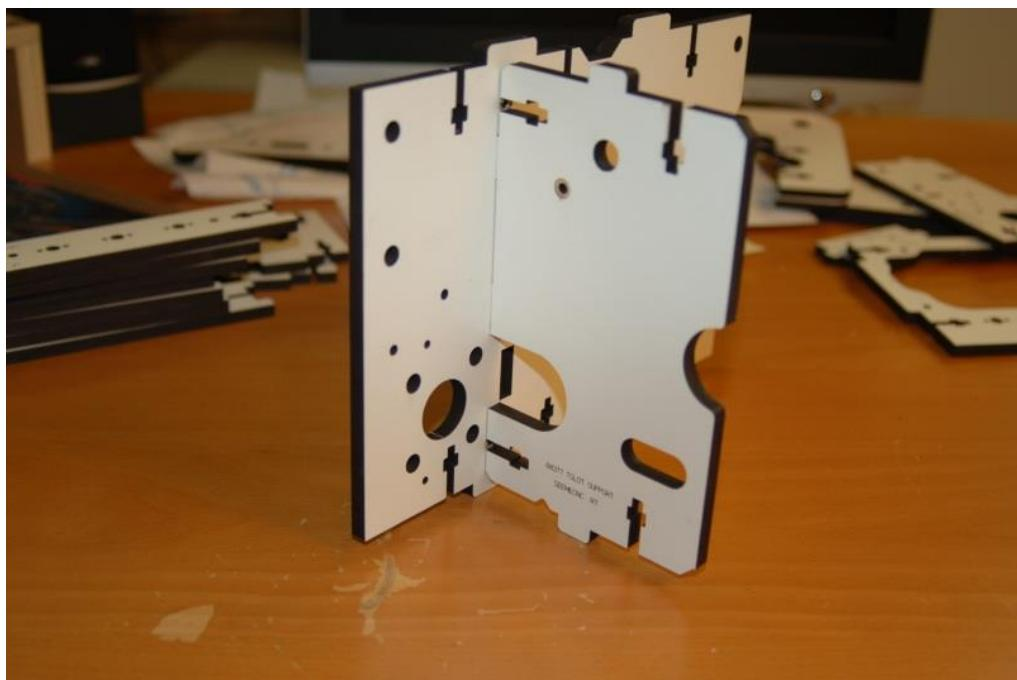
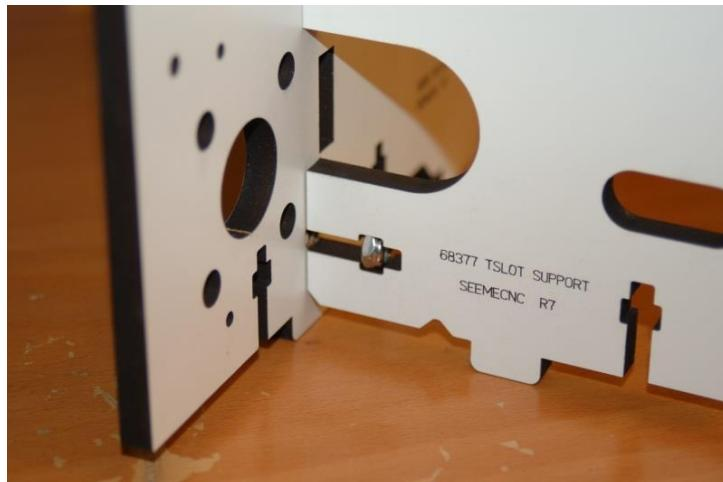

Figure 7 - Dry fitting the T-Slot and Tri-Support together.
Figure 8 - Lock nut installed in the T-Slot Support.
Note that that Fig. 7 above and Fig. 8 below show the T-Slot panel mated to the wrong side of the Tri-Support. Figures 9 and on are correct!
1.8 - Dry fit the parts as shown in Fig 7 in order to get an idea how they go together. You'll do this for many steps in the assembly guide. Next, pop out the counter-sink rings on the Tri-Support and install a pair of #6-32 Nylon lock nuts into the notches in the T-Slot Support as shown below.